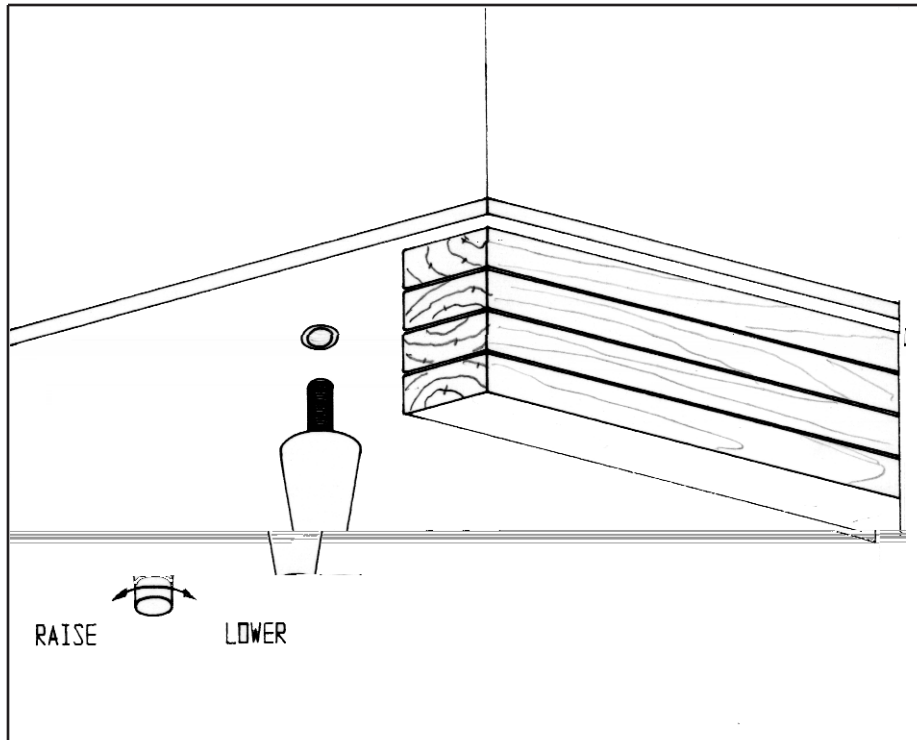

FIGURE 2
Your new "SW" series model is supplied with adjustable type legs for leveling purposes. Each SW27, SW48, SW60 and SW72 model has four leg mounting holes on its case bottom. Legs are packed in the accessory carton from which they must be removed and installed on the cabinet case bottom (see figure 2). In order to install the legs, carefully tip the cabinet rearward adding four (4) 2" wood blocks underneath and simply screw the threaded leg studs into the case bottom front leg holes. Repeat this procedure by tilting the cabinet in the opposite direction and install the remaining legs. Make sure the legs are tightened extremely well or the entire model will sway or rock with each opening or closing of the doors, possibly causing damage to the case bottom. This procedure should be performed close to the final installation site and allow access to the rear of the cabinet for condensate evaporator installation (see "condensate evaporator installation" under installation and location section).